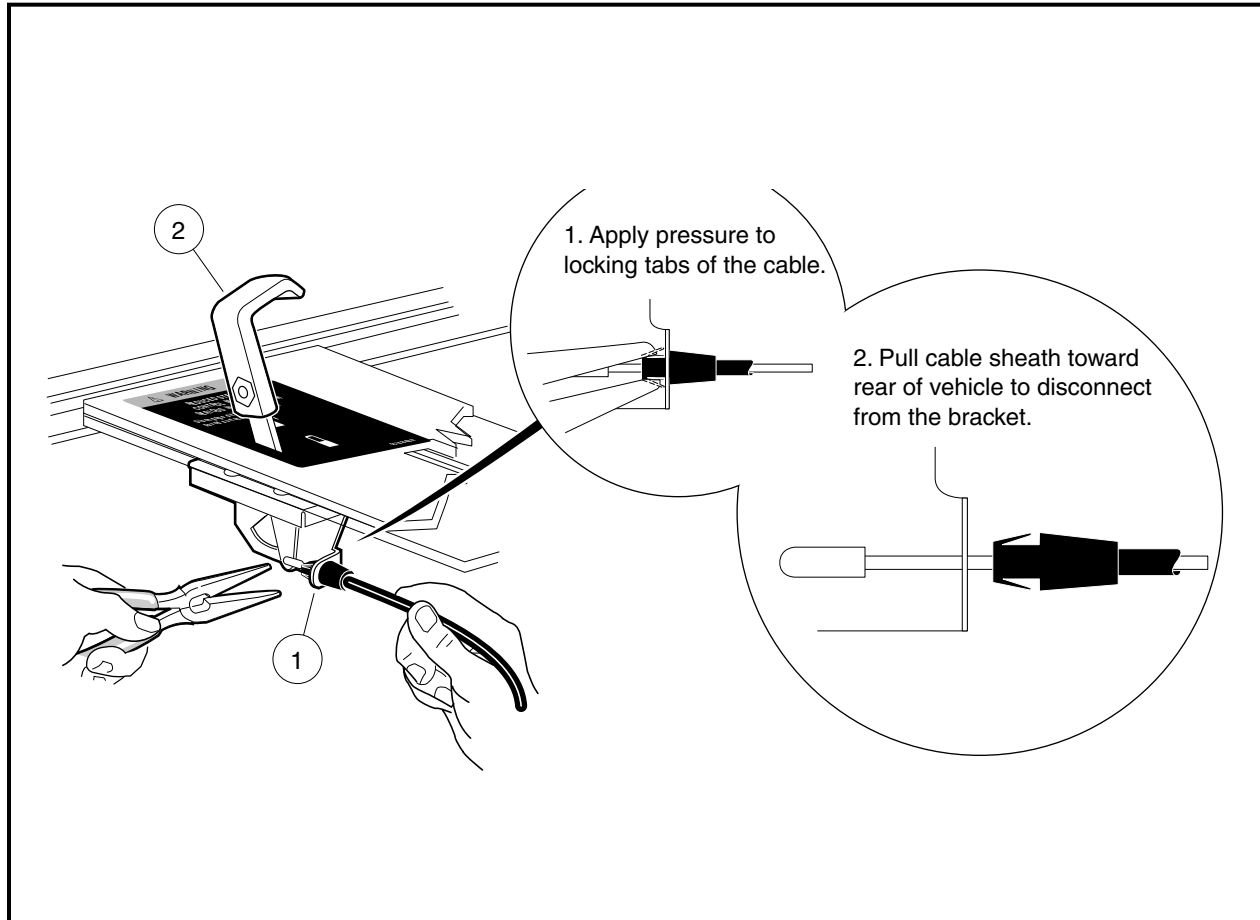

Figure 16b-15 Differential Lock Cable Bracket
- 5.7. Disconnect the engine ground wire from the oil filler tube mounting bracket (**Figure 16b-19, Page 16b-12**).
- 5.8. Loosen nuts securing shifter cable to shifter cable mounting bracket. Then disconnect the shifter cable rod end from the shifter arm on the unitized transaxle and remove the cable from the cable mounting bracket (**Figure 16b-20, Page 16b-12**).
- 5.9. Remove screws (2) securing the Forward/Reverse shifter cable bracket (1) to transaxle and remove the shifter bracket (**Figure 16b-42, Page 16b-19**).